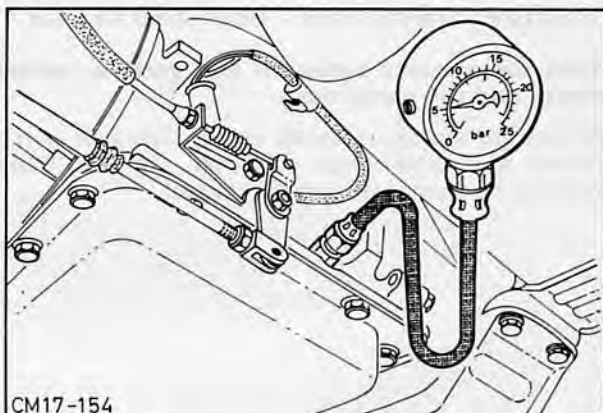

Fig. 12. Check oil pressure
1. Connect oil pressure gauge to transmission housing measuring connection, Fig. 12.